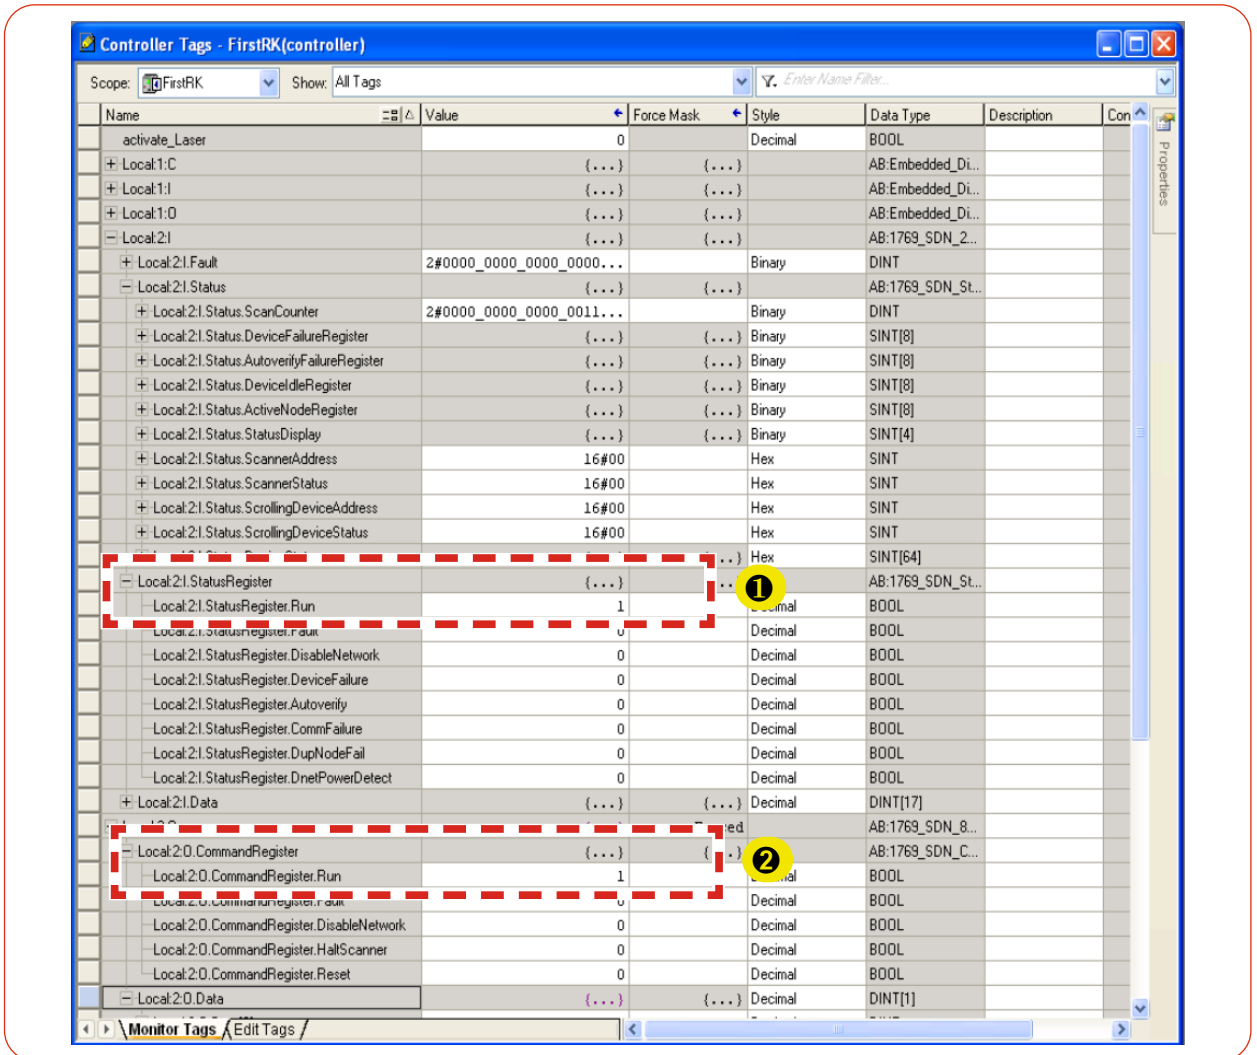

Fig. 13.5: Data range of the scanner
After the integration of the DeviceNet® scanner and the PMM into the system, the data of the PMM are displayed in the data range of the scanner first (see Fig. 13.5 on page 67):
The entry „Local:2:0.CommandRegister.Run = 1“ in Fig. 13.5 on page 67 --> ②) sets the scanner into the RUN-Mode. Only then data will be transferred from the scanner to the PMM.
The RUN-Mode of the scanner can be checked by means of the status register in Fig. 13.5 on page 67 --> ① („Local:2:1.StatusRegister.Run = 1“).